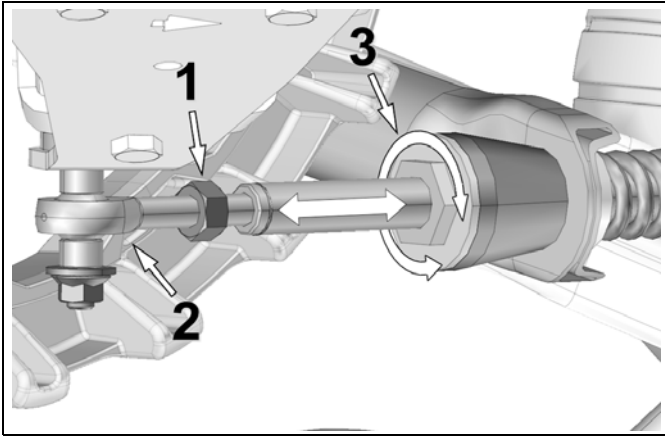

Figure 6
- Loosen jam nut (1). Adjust length of rod end (2) by rotating the stabilizing arm (3), to obtain **308 mm [12 1/8 in.]** above the ground. Refer to Figure 6.